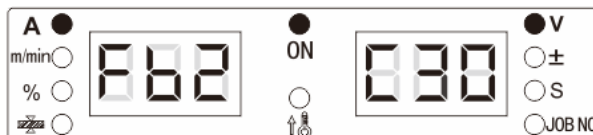

Fig.4-19 Model Query Display Interface
1. Enter into internal function, and adjust left panel knob to FB2 (shown in figure 4-19).